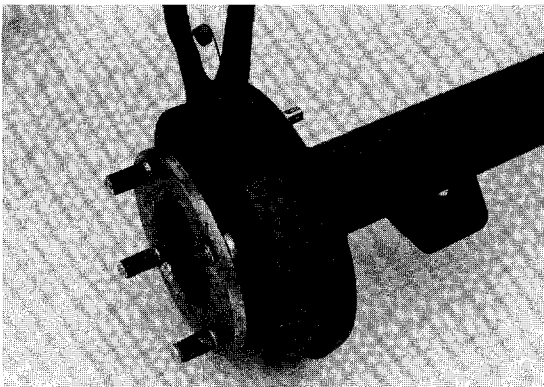

Figure 11-2
3. Remove internal retaining ring (37) from axle tube using internal snap ring pliers (Figure 11-2).